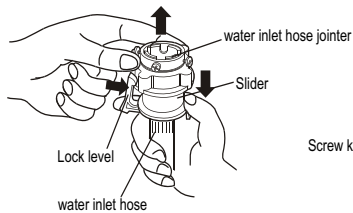
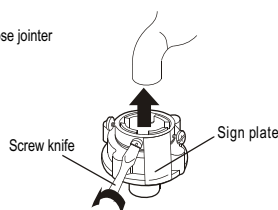
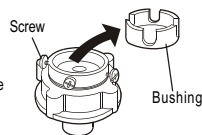

Figure 1
Figure 2
Figure 3
<p>Clean the detergent box and set it on the control panel seat.</p> <p>1.The method of dismantle: Push it up aslant and gently</p> <p>2.The method of install : install it upwards and aslant and push it in .</p>  <p style="text-align: center;">Dismantle Install</p>	<ul style="list-style-type: none"> • The lint filter must be used during washing. • It must be cleaned in time after each using. <p>Lint filter:</p> <ol style="list-style-type: none"> 1.Push down the spring piece of the top lint filter to make the claws out of the filter cover, and then pull out the lint filter to get it down. (figure1) 2.Pull the back of the lint filter, and then you can get down it off the front cover of the lint filter. (figure2) 3.Sweep the rubbish in the lint filter. 4.Put the back of the lint filter into the front cover . 5.Put the lint filter into filter cover, and make it tight . 6.Make sure the lint filter well installed, or it can influence your use.  <p style="text-align: center;">Figure 1</p>
2. Put down the drain hose. Take off the drain hose frame as indicated in Figure 1. Take the drain hose into the cabinet, then nip the drain fixing clamp to make it deviated from the clip, the other hand is used to put down the drain bushing, as indicated in Figure 2, 3.
1. Press the lower end of the lock lever and push down the slider. Take off the water inlet hose jointer from the water inlet hose component. See to Figure 1.
2. Loosen the screw till the water faucet can be accessed. Put the jointer of the water inlet hose on the faucet. See to Figure 2. (If the faucet is too large and the jointer can not be set on the water faucet, please loosen the four screws and take out the bushing in the jointer. The front end of the faucet must be smooth, otherwise it may leak water. See to Figure 3.)